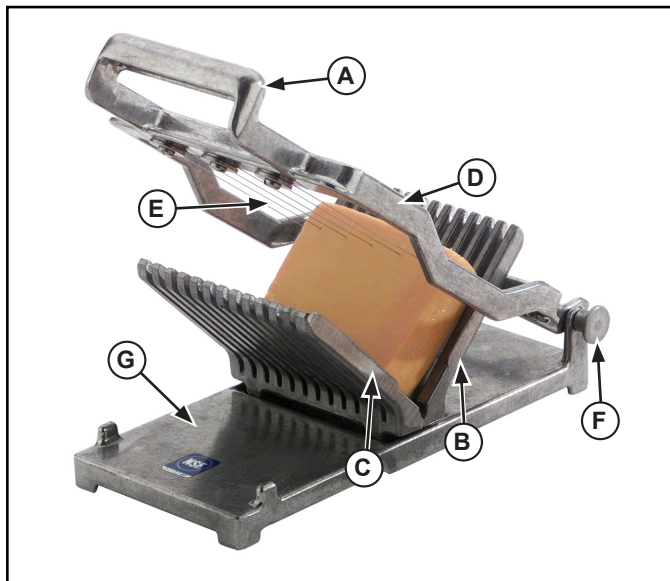

Figure 1. Features and Controls.
2. Before each use, check that the unit is clean and the cutting wire (E) is in good condition. If loose or broken, the cutting wire must be replaced. See Figure 1.
3. Verify that the cutting bow assembly (D) is the desired size.
5. Lift the handle (A) and place the food product on the hinge side guide (B) with the flat side down.
7. Using a slow, consistent movement draw the cutting wire (E) through the food product.
1. To remove the cutting bow assembly (D) slide the pivot pin (F) off the base assembly (G). Figure 1.
2. Wipe, rinse or spray off unit, cutting bow assembly (D) and base assembly (G) thoroughly with HOT water.
5. Lubricate the pivot pin (F) with mineral oil or Petro Gel after each use. Do not use cooking oil as it will become sticky and may permanently damage the machine.
6. Install the cutting bow assembly (D) by holding it in position and sliding the pivot pin (F) through the base assembly and the cutting bow assembly (D).
See Figure 1.